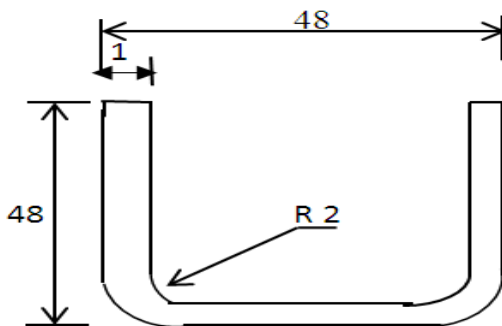

Fig.4
Q.10 a) Determine the developed Length of part shown in figure 4
- b) A shell shown in figure 4 has a height of 48mm and a diameter of 48mm. The corner radius is 2mm and workpiece material is medium carbon steel (yield strength  $335\text{N/mm}^2$ ) and is 1mm thick. Design die for drawing operation.